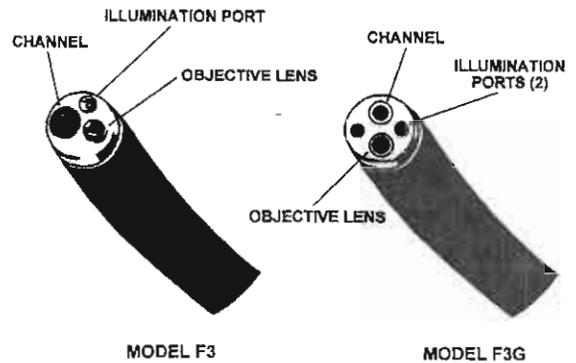

Figure 2-5. *Distal tip.*
Model unique characteristics and specifications are identified in the preceding table 1-3. Model differences are also illustrated in figure 2-5. End item component differences are identified in appendix C.
c. *Distal tip (fig 2-5).*